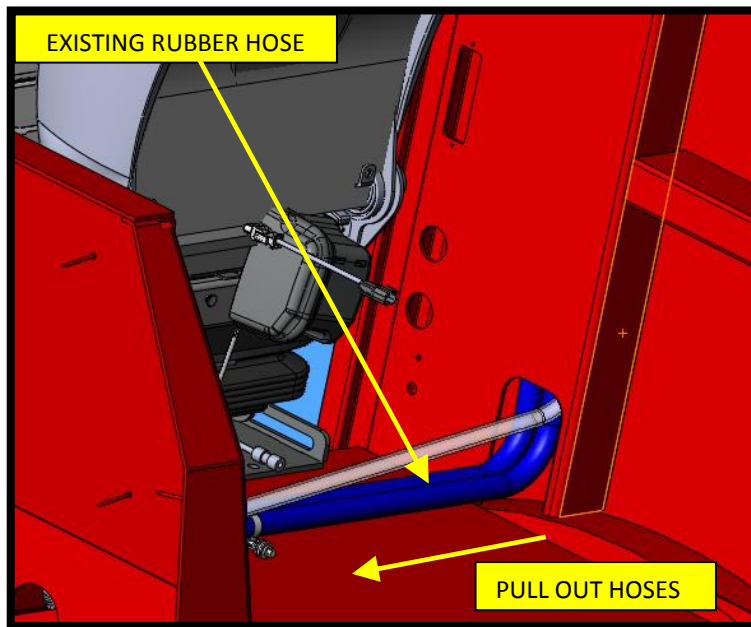

**FIG. 9-2**
16. Remove all hose clamps on heater lines connected to copper fittings that are located on floor behind the officer seat and properly dispose of. Refer to FIG. 9-2.